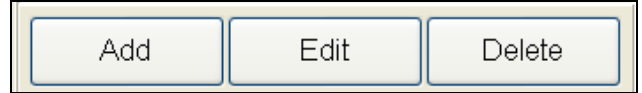

Figure 4.3.3
4. Click on the **Edit** button at the bottom of this window (Figure 4.3.3).